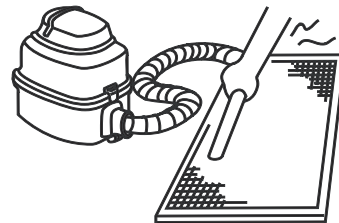

Figure 12.2
- a. The air intake side should face up when using a vacuum cleaner. (Refer to Figure 12.2)